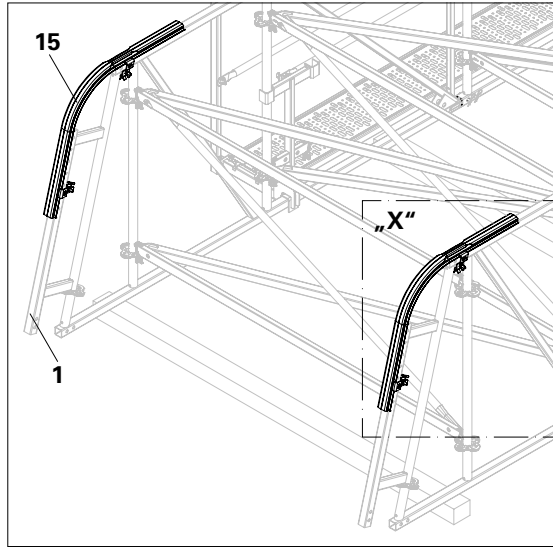

Fig. A3.01
1. Position Eave Rail (15) on the Keder tube and topmost outer tube of the Eave Element (1). (Fig. A3.01)